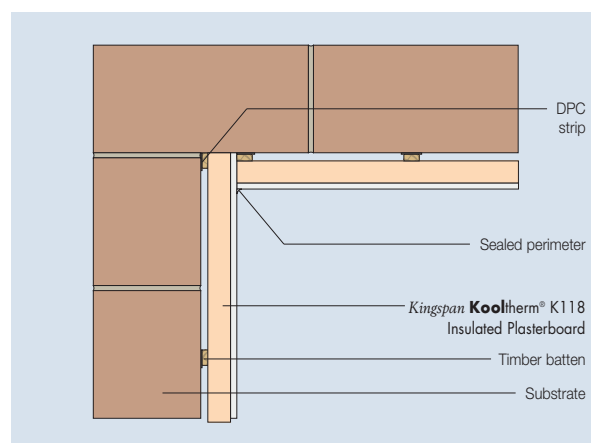

Figure 10 – Internal Corner Detail
- For external corners (including reveals), the lining should run past the corner and the insulating backing of *Kingspan Kooltherm*® K118 Insulated Plasterboard should be cut back to create a junction (see Figures 10 & 12). Sheets should be cut and rebated to allow a plasterboard / plasterboard joint at the angle (see Figures 10 & 11).
- Ensure sheets are lightly butted and air gaps minimised to reduce the risk of cold bridging (see Figures 10 & 12). Any air gaps should be sealed with flexible sealant or equivalent, or a combination of flexible polyurethane foam and flexible sealant or equivalent.